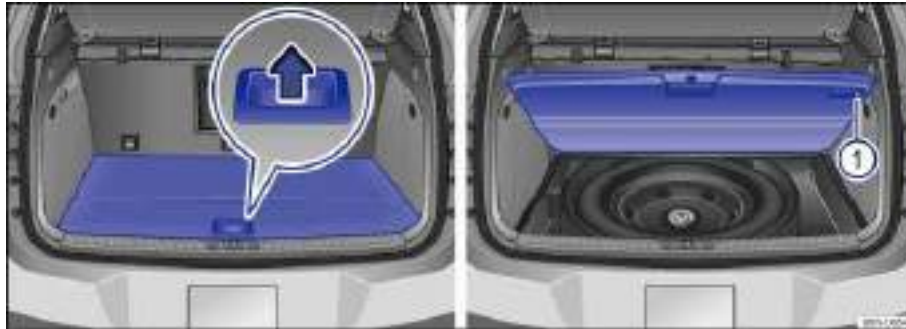

Fig. 105 In the luggage compartment: Opening and securing the variable luggage compartment floor.
- To *open*, fold out handle in the direction of the arrow and raise the luggage compartment floor completely ⇒ fig. 105.
- To *close*, push the retaining pin (1) to the left and guide the luggage compartment floor downwards.
There may be a foam element with the spare wheel ⇒ fig. 105 located beneath the variable luggage compartment floor. If a spare wheel is present, remove it ⇒ *Compact spare wheel* and remove the foam element from the luggage compartment.